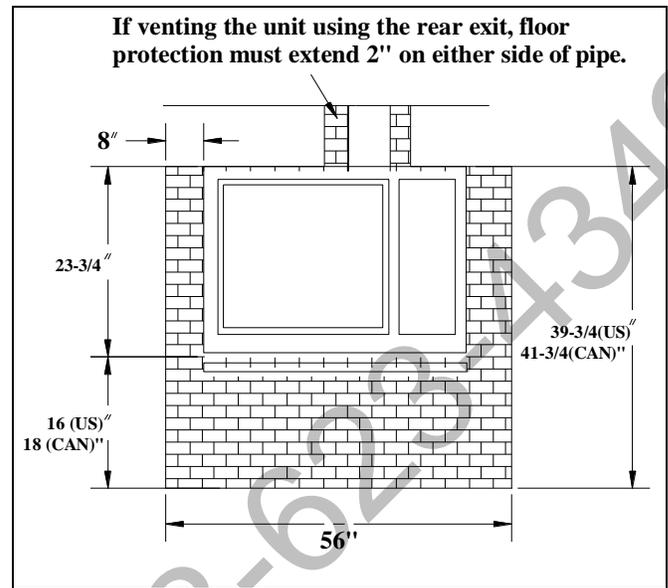

Figure 1 - Hearth Protection for top vent installations
- 🔥 A non-combustible floor protector that you obtain from your dealer, or any other noncombustible material (metal, glass, stone, tile, etc.). A floor protector is any noncombustible surface laid on the floor underneath the stove that extends, 16 inches - US (or 46 cm in Canada) beyond the fuel loading door and 8 inches (20 cm) beyond each side of the cook stove. (See Figure 1) The hearth protection for your Deva 100 must have an R-value of at least 0.89, or be a UL Listed floor protection.